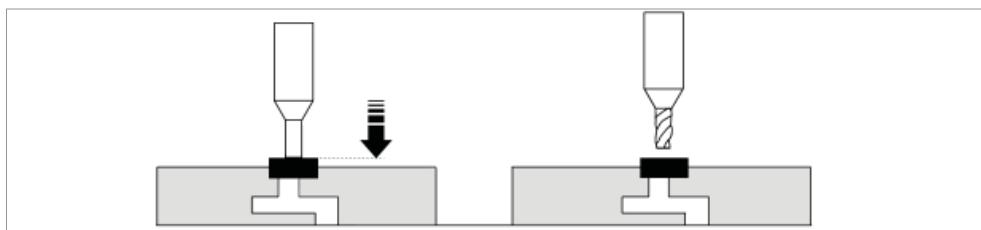

Fig. 15
- 1) Turn off the motor with switch (Q).
- 3) Loosen the top nut (O).
- 5) Turn the nut (N) a few turns clockwise to lower the tracer.
- 6) Turn on the motor with switch (Q).
- 7) Use the lever (J) to lower the vertical carriage until the tracer touches the key in the left-hand clamp (Fig. 15).